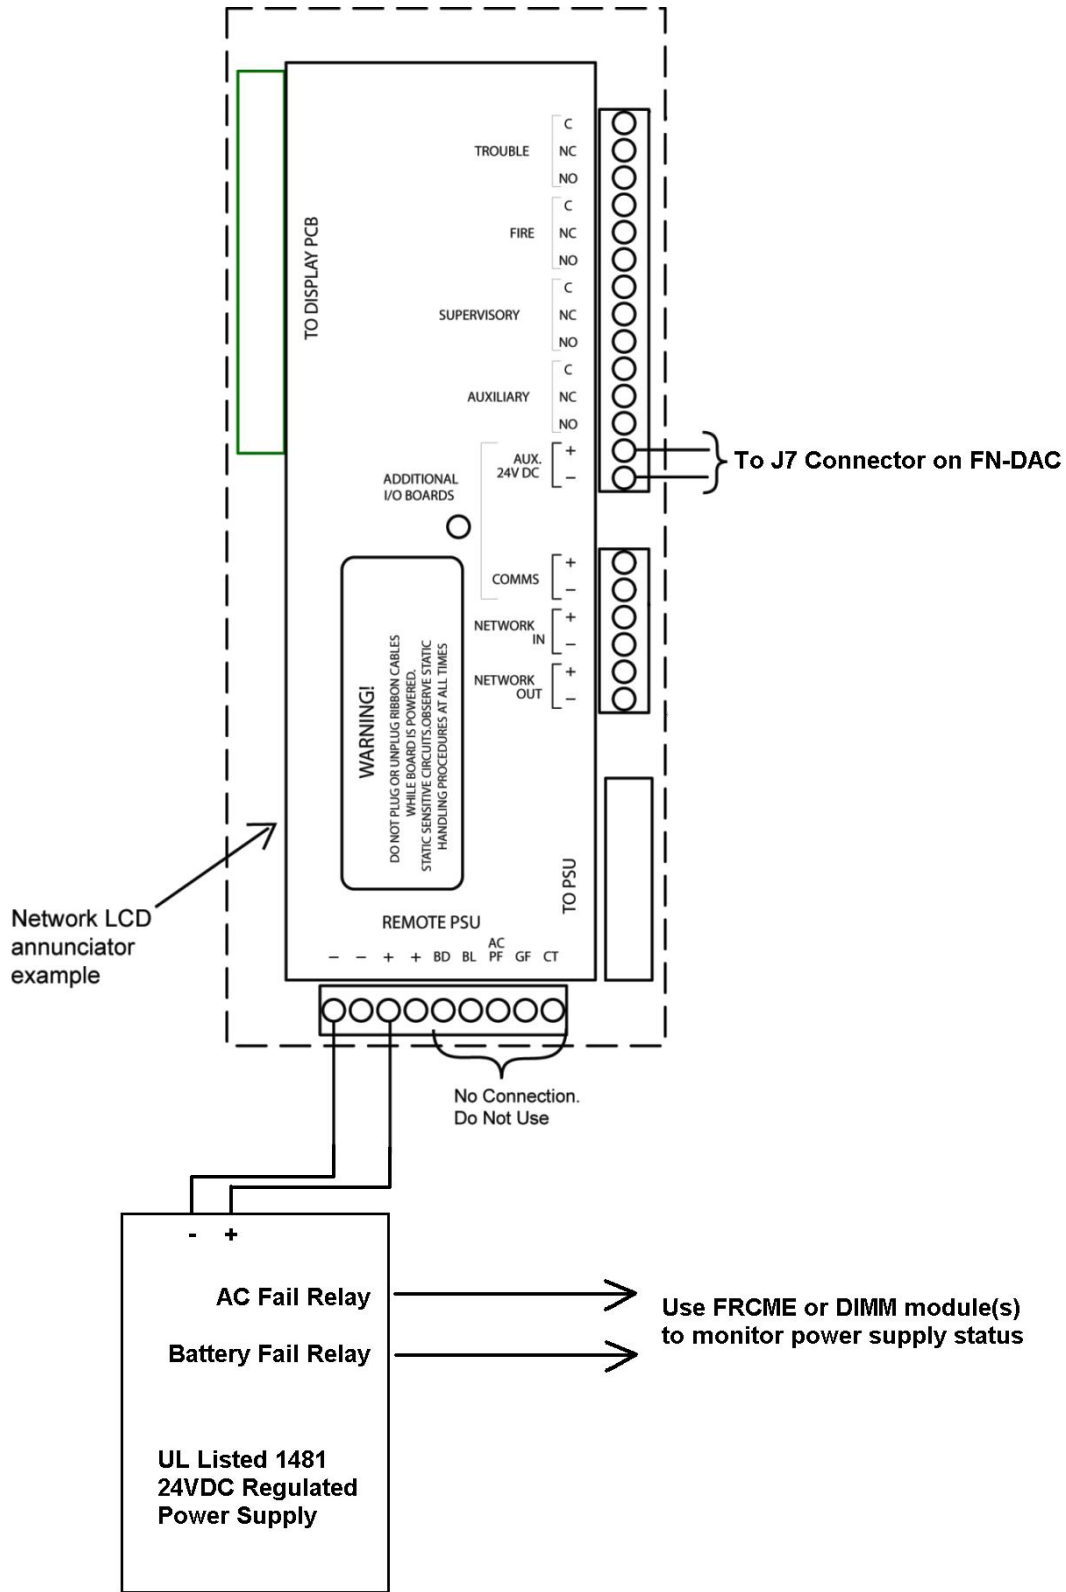

Figure 2.3.3 – Typical Power Supply Connections
- 1) Analog input modules such as the FRCME or DIMM may be used to monitor the trouble relay outputs on the power supply. Ensure that these modules are configured to indicate a trouble at all FireNET panels and annunciators in the event of a power supply trouble. Power supply trouble events must also be reported to the monitoring station so that appropriate action can be taken. See figure 2.3.3 for typical connections.